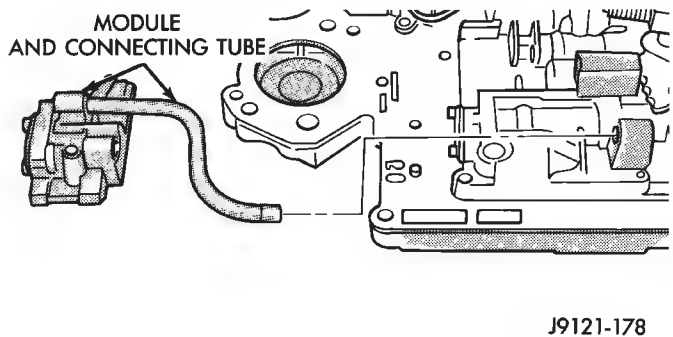

Fig. 111 Clutch Module And Connecting Tube Removal/Installation
(9) Remove screws attaching converter clutch module to valve body and remove module and connecting tube (Fig. 111).
(23) Position adjusting screw bracket on valve body. Align valve springs and press bracket into place. Install short, upper bracket screws first and long bottom screw last. Verify that valve springs and bracket are properly aligned. Then tighten all three bracket screws to 4 N·m (35 in. lbs.) torque.
(24) Install module and connecting tube. Be sure long end of tube goes to module (Fig. 111). Tighten module screws to 4 N·m (35 in. lbs.) torque.